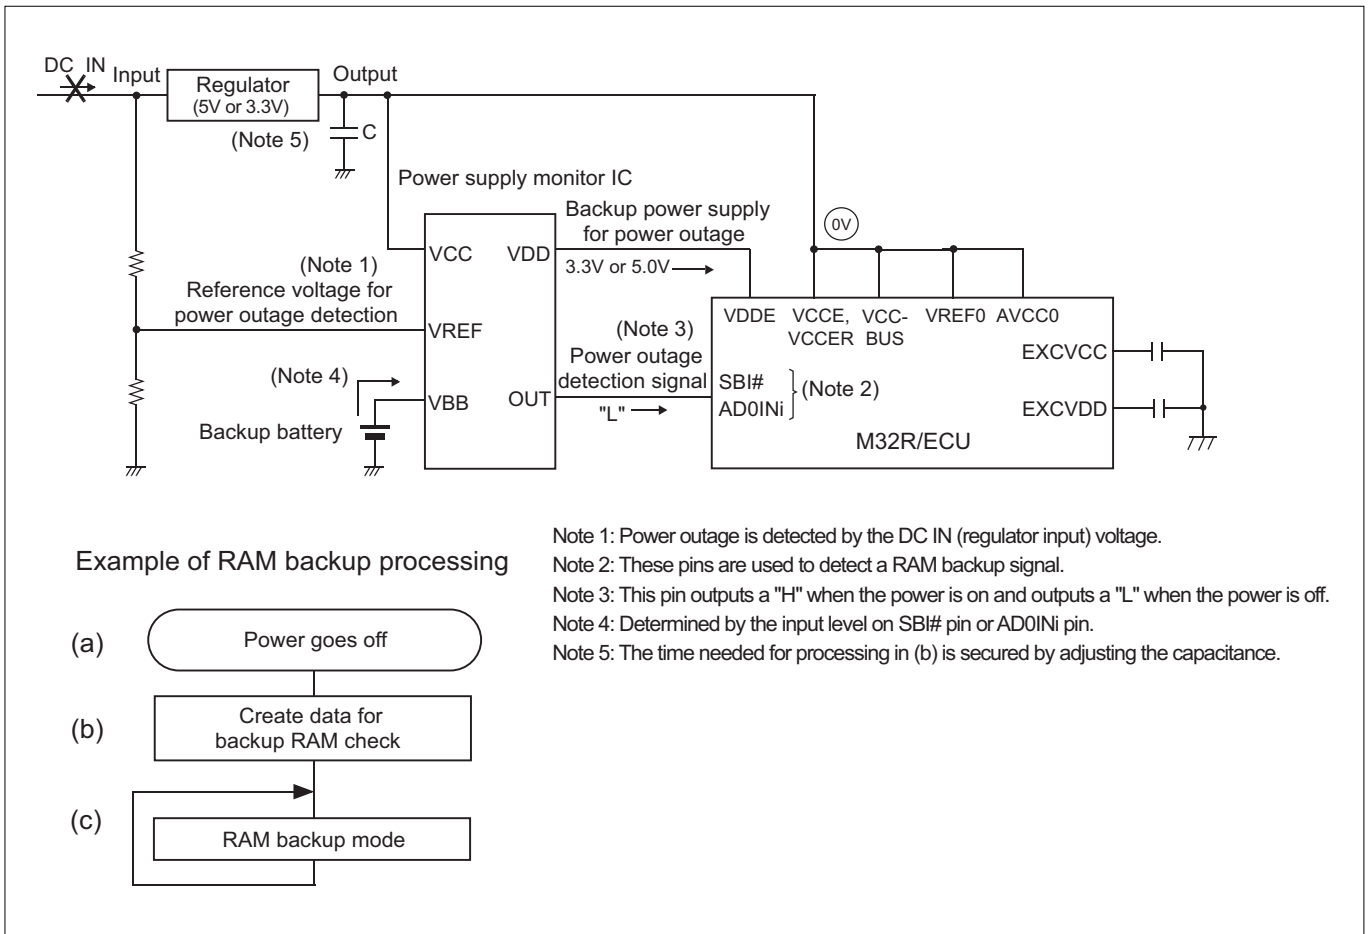

Figure 19.2.3 Power Outage RAM Backup State
Figure 19.2.3 shows the power outage RAM backup state of the M32R/ECU. When the power supply goes off, the power supply monitor IC starts feeding current from the backup battery to the M32R/ECU. Also, the power supply monitor IC's power outage detection pin outputs a "L," causing the SBI# pin or AD0iNi pin to go "L," which generates a RAM backup signal ((a) in Figure 19.2.3). Determination of whether the power is off must be made with respect to the DC IN (regulator input) voltage in order to allow for a software processing time at power outage.
- (1) Create data for RAM check to verify whether the RAM data has been retained normally after returning from RAM backup mode to normal mode ((b) in Figure 19.2.3).
If the power supply to VCCE goes off after making above setting, the VDDE pin voltage goes to 3.0–3.3 V and all other pin voltages drop to 0 V, and the M32R/ECU is thereby placed in RAM backup mode ((c) in Figure 19.2.3).